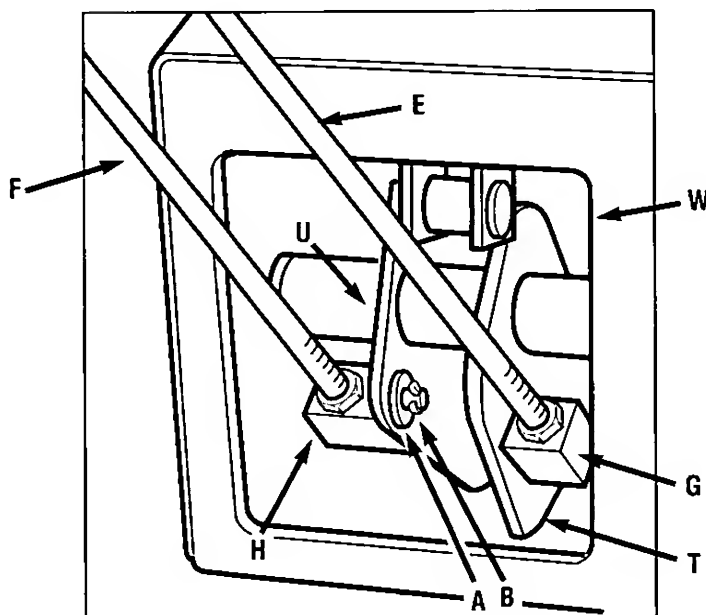
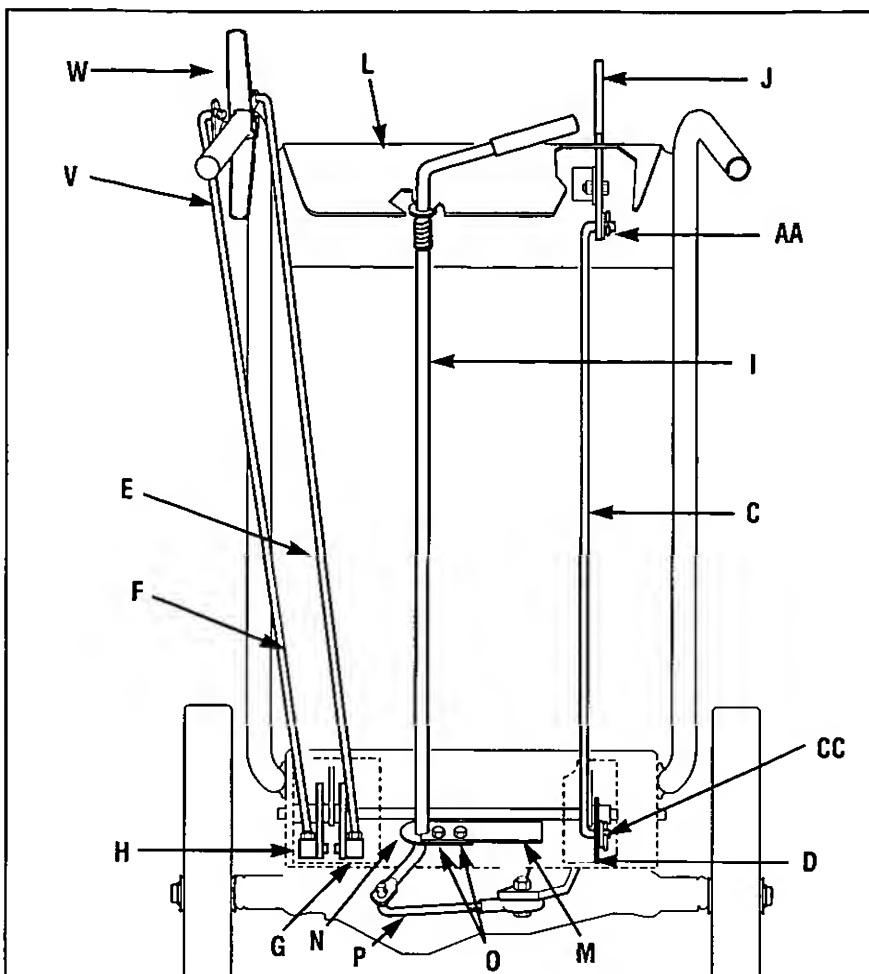
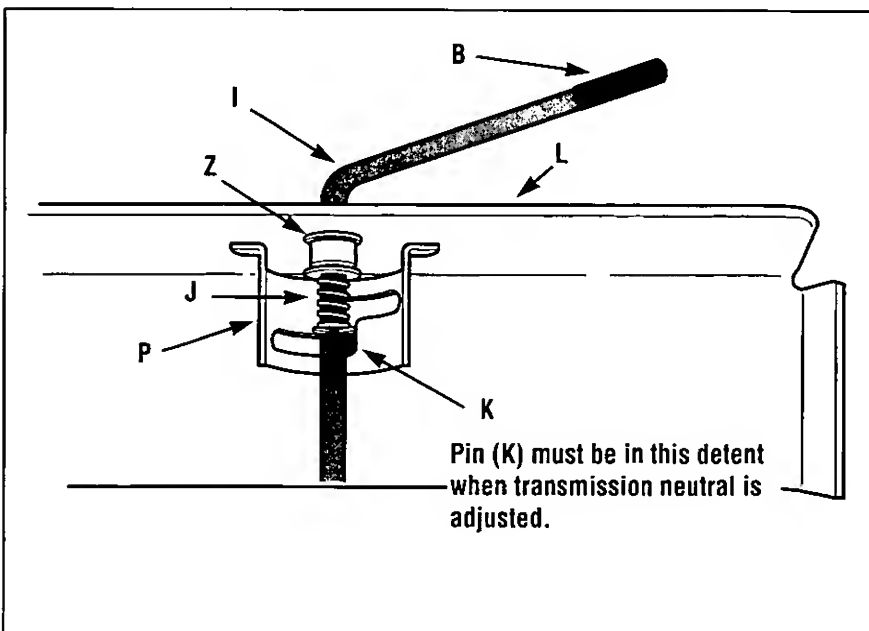
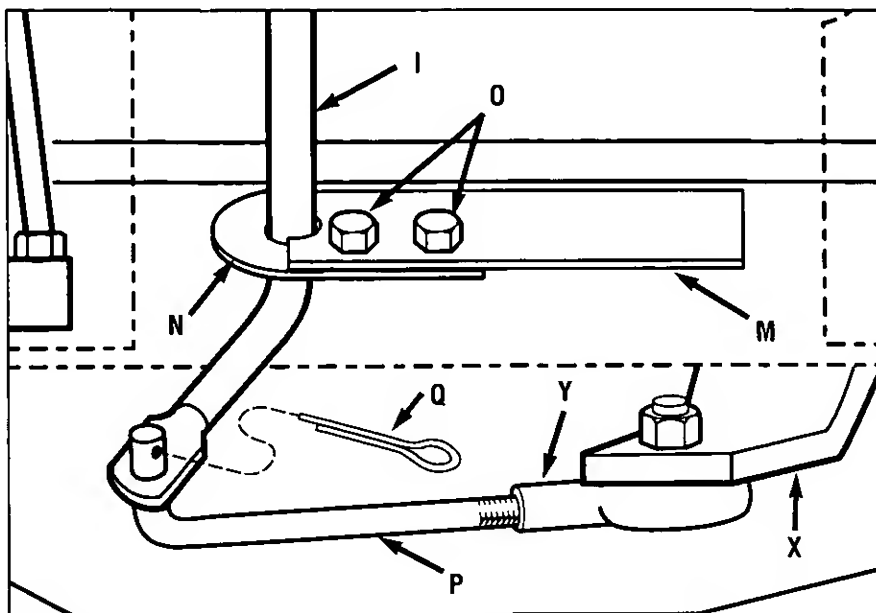

Figure 2-6: Left-hand control rods in detail.
Figure 2-7: Rear view of control rods.
Figure 2-8: Detail - Gear Select Lever in Neutral (N) position.
Figure 2-9: Detail - Transmission Neutral Adjustment.
1. Cut and remove any plastic tie(s) holding wheel drive rod (F, Figure 2-7) to left handlebar and blade drive rod (C, Figure 2-7) to right handlebar. Put rods aside.
1. Locate the wheel drive control rod (F, Figures 2-6 & 2-7) that you removed from the left handlebar in Step 2. This rod has a swivel block (H, Figure 2-6) on one end.
2. At left side of engine frame, insert swivel block (H, Figures 2-6 & 2-7) on wheel drive control rod into wheel drive control arm (U, Figure 2-6).
3. Add one 5/16" washer (A, Figure 2-6). Secure with cotter pin (B, Figure 2-6). Bend ends of cotter pin to secure the rod.
1. Locate control rod (E, Figures 2-6 & 2-7) attached at upper end to Operator Presence Control (W, Figure 2-7).
2. At bottom of control rod, insert swivel block (G, Figures 2-6 & 2-7) into control arm (T, Figure 2-6).
1. Locate the blade drive control rod (C, Figure 2-7) that you removed in Step 2. Insert one end of control rod into blade drive bracket (D, Figure 2-7). Add one 5/16" washer and secure with cotter pin (CC). Bend ends of cotter pin to secure.
2. Insert upper end of rod into bottom end of Blade Drive Control lever (J). Add one 5/16" washer and secure with cotter pin (AA). Bend ends of cotter pin to secure.
1. Using the edge of a piece of flat wood (such as a ruler), remove the vinyl grip (B, Figure 2-8) from the gear select lever (I). Place the wood edge against the edge of the grip and slowly pull off the grip.
2. Insert nylon bushing (Z, Figure 2-8) up into console (L).
3. Slide spring and washers (J) down onto gear select lever.
4. Insert gear select lever (I) up through nylon bushing (Z) in handlebar console (L, Figure 2-8). Guide pin (K) on gear select lever into groove in shift quadrant (P).
5. Hold lower part of gear select lever (I) against bracket (M, Figure 2-9). Position retaining plate (N) from parts bag in place as shown in Figure 2-9 (plate below bracket). Secure plate with two 1/4"-20 x 1/2" long screws (O) and 1/4"-20 locknuts.
6. Slide grip (B, Figure 2-8) back onto upper end of gear select lever (I).
7. Rotate gear select lever (I, Figures 2-8 & 2-9) clockwise until spur (K - short rod) on gear select rod stops in the neutral position detent on the shift pattern quadrant (Figure 2-8).
8. At bottom of control rod, thread shift link (P, Figure 2-9) partially into ball-joint (Y).
9. Move shift arm (X, Figure 2-9) from side to side as necessary into each transmission gear detent until transmission is in neutral.
NOTE: Moving shift arm (X) all the way to the left, and then one notch back to the right, should put transmission into neutral. When transmission is in neutral, unit will move freely when pushed while holding the Operator Presence Control lever (W, Figure 2-7) down. If transmission is NOT in neutral, there will be a slight drag on the wheels when pushing unit.
10. When shift arm (X) is in neutral position, rotate shift link (P) toward end of gear select lever rod (I). Adjust length of shift link (P) as necessary to fit into hole in bottom of gear select lever (I).
NOTE: Pin (K) on Gear Select Lever (I) must be held in the neutral position detent on the shift quadrant (see Figure 2-8) while shift link (P, Figure 2-9) is adjusted.
11. Insert hooked end of shift link (P, Figure 2-9) into hole in bottom end of gear select lever (I) and secure with cotter pin (Q). Bend ends of cotter pin. **NOTE:** It may be necessary to lift gear select lever (I) to install shift link (P).
12. Remove unit from shipping crate. To remove, hold down Operator Presence Control lever (W, Figure 2-7) which releases the wheel brake.
13. Hold down Operator Presence Control lever (W, Figure 2-7) and push unit forward and backward. The wheels should move freely. If not, adjust length of shift link (P, Figure 2-9) as necessary.
14. Put the Gear Select Lever in neutral (N), release all of the control levers, and try to push the unit forward and backward. The wheels should not turn. If they do turn, an adjustment is necessary. **DO NOT OPERATE THE UNIT UNTIL THE WHEEL BRAKE MECHANISM HAS BEEN ADJUSTED AND IS WORKING PROPERLY.** See "Wheel Brake Adjustment" in Section 5 "Maintenance."
1. Move mower to a level area. Press and hold down Operator Presence Control lever (W, Figure 2-7) to move mower.